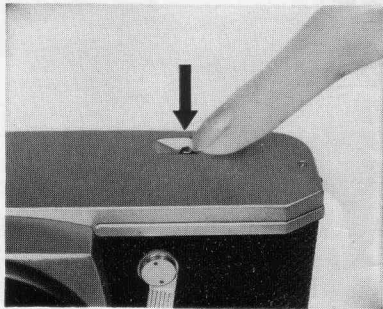

Fig. 22
- (2) Press in all the way the rewind release button on camera bottom (Fig. 22).
- (3) Turn rewind crank lever clockwise. Tension is felt as the film is rewound from the take-up spool into the cassette. Stop rewinding when tension is released. Open camera-back (by pulling out rewind knob all the way) and remove the film.